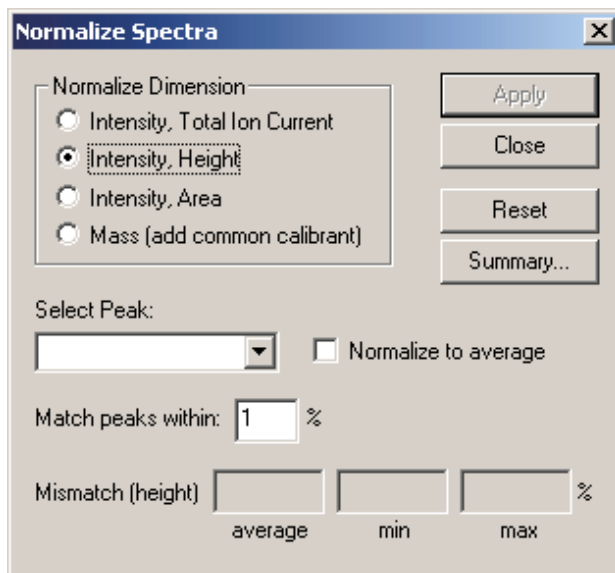

Figure 5-32: Using the **Normalize Spectra** dialog to normalize by peak intensity as indicated by height.
4. Select either **Intensity, Height** or **Intensity, Area** for the **Normalize Dimension**. The options in the lower half of the dialog will be as shown in Figure 5-32.